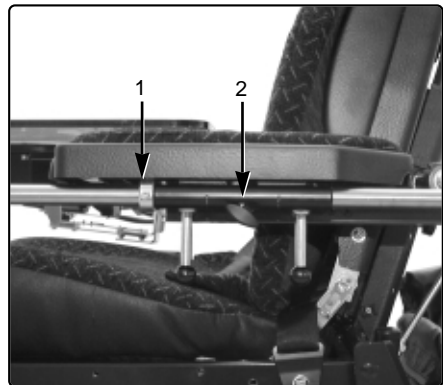

Figure 12. Adjusting the table
1. Loosen the screw, figure 12:1.
2. Loosen the knob, figure 12:2.